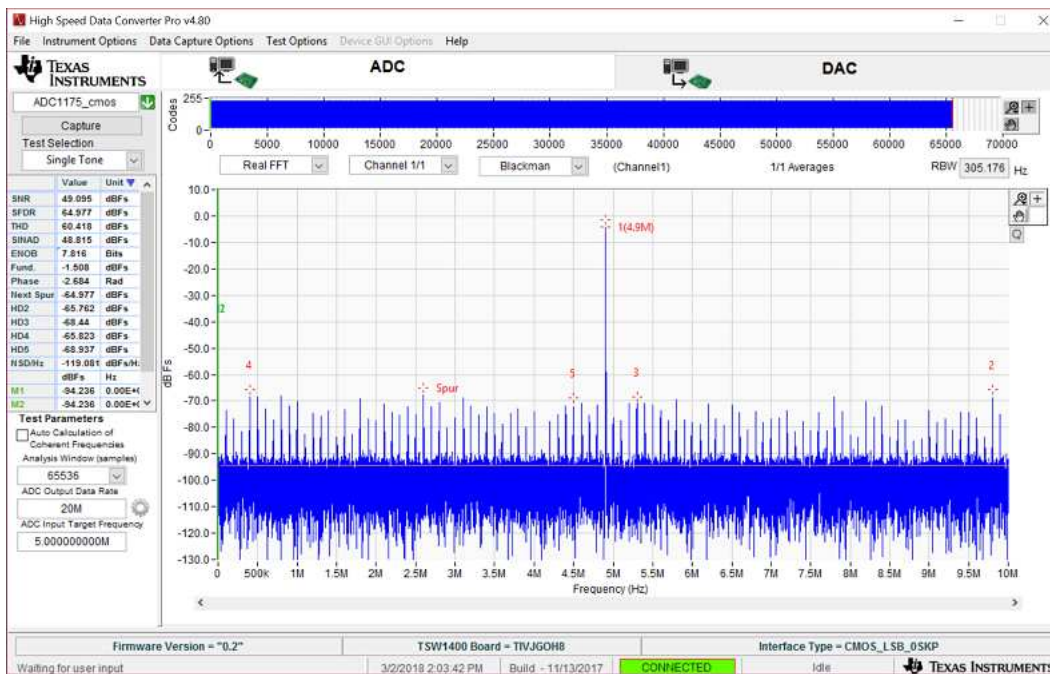

Figure 5. ADC1175 Data Capture Using the HSDC Pro GUI
- Click the *Capture* button. The results of the captured data should look like that of Figure 5, and the performance should be similar to that of Table 2.